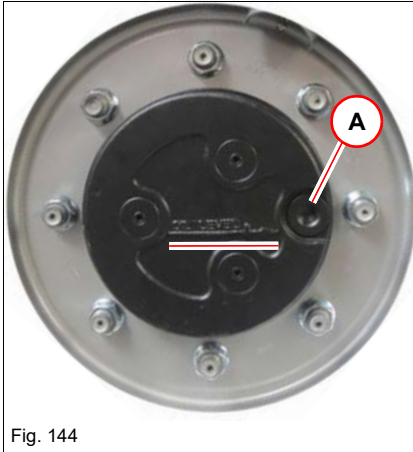

Fig. 144
13. Bring the opening **A** into position as shown in Fig. 144 (screw must be horizontal).